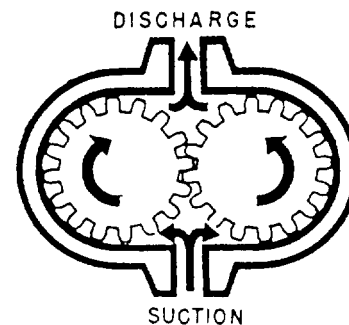

Figure 9-9.—Simple gear pump.
**GEAR PUMPS.**— The simple gear pump (fig. 9-9) has two spur gears that mesh together and revolve in opposite directions. One is the driving gear, and the other is the driven gear. Clearances between the gear teeth (outside diameter of the gear) and the casing and between the end face and the casing are only a few thousandths of an inch. As the gears turn, the gears unmesh and liquid flows into the pockets that are vacated by the meshing gear teeth. This creates the suction that draws the liquid into the pump. The liquid is then carried along in the pockets formed by the gear teeth and the casing. On the discharge side, the liquid is displaced by the meshing of the gears and forced out through the discharge side of the pump.